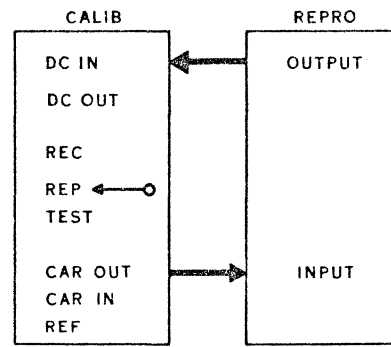

Figure 4. Reproduce Board Calibration Scheme
2. FM REPRODUCE BOARD CALIBRATION - (refer to figure 4) - This procedure details calibration of FM reproduce boards having an input testpoint. For those boards not having an input testpoint, refer to paragraph 4 concerning reproduce calibration via tape.